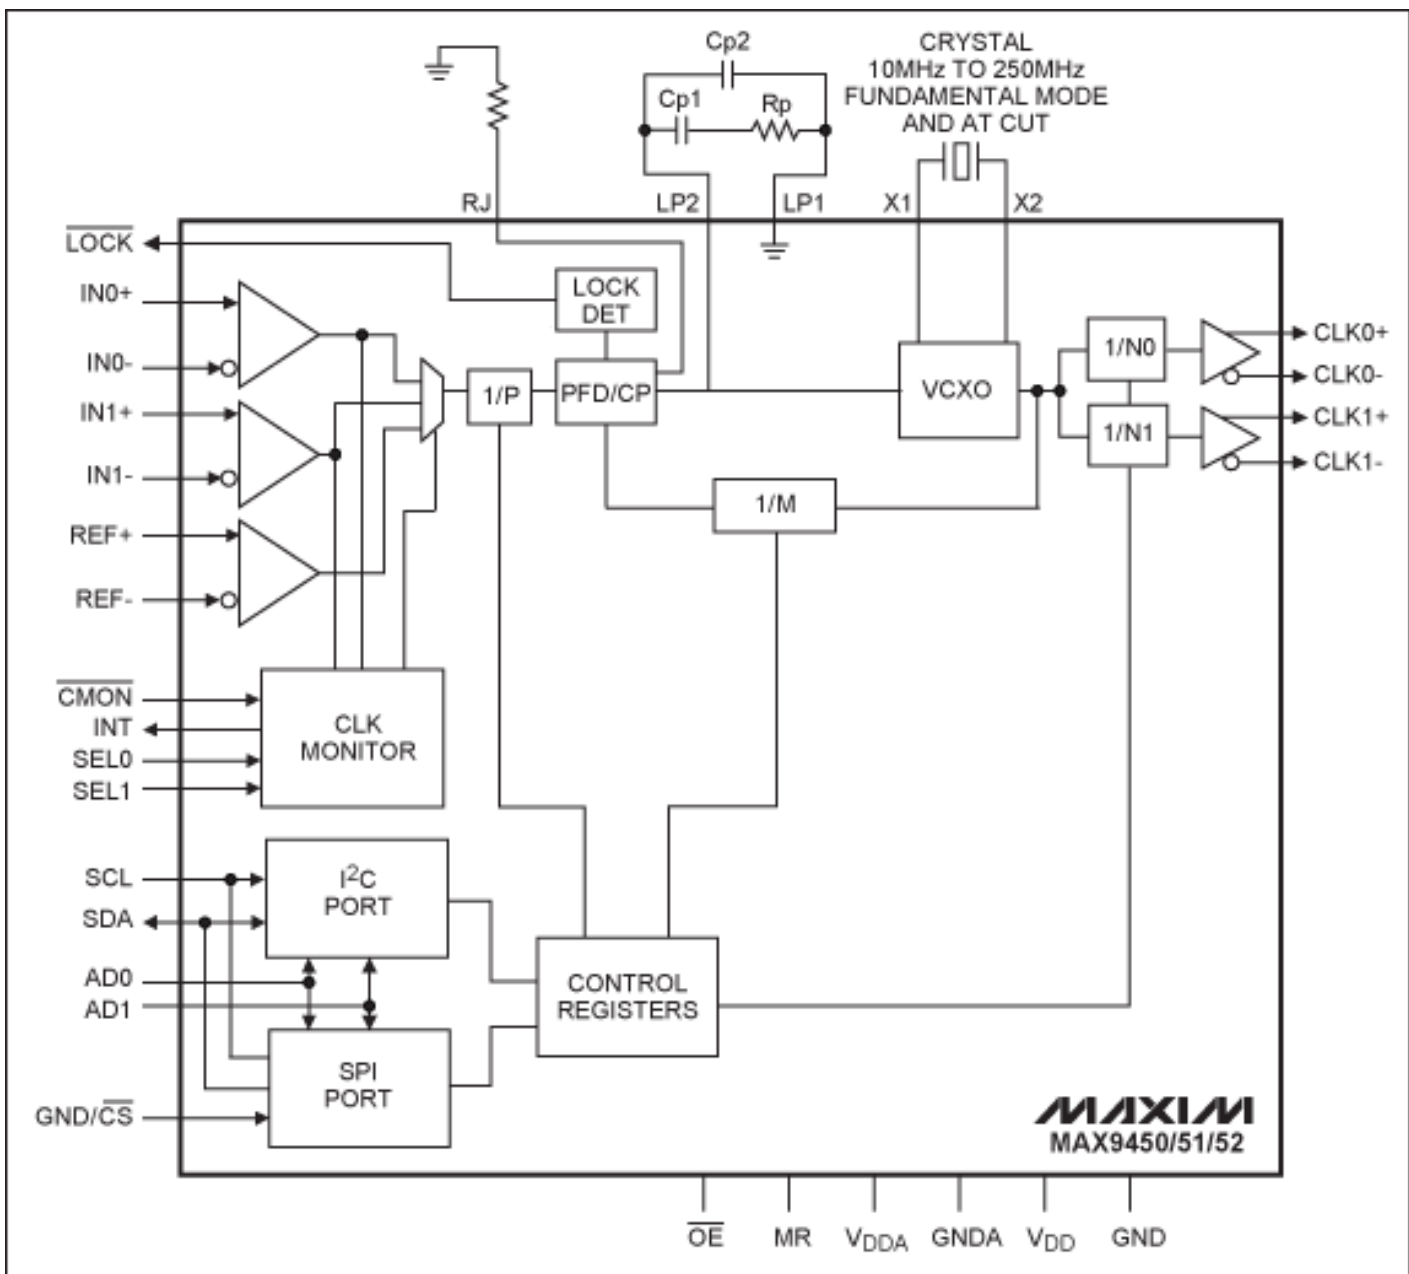

Figure 1. Block diagram of the MAX9450/MAX9451/MAX9452.
The MAX9450/MAX9451/MAX9452 clock generators¹ provide high-precision clocks for timing in SONET/SDH systems, Gigabit Ethernet systems, and the ADC/DAC of 3G base stations. The devices can also be used as a jitter attenuator, and they have the same core with three different outputs: LVPECL, HSTL and LVDS. The block diagram of the chip is shown in **Figure 1**.
As shown in Figure 1, the VCXO's active circuitry is integrated into the chip and only the crystal and loop-filter RC components are external. As noted above, the crystal frequency must be the same as the desired output frequency. But we also need to consider the crystal's oscillation mode, cut type, loading capacitance (CL), frequency tolerance range, shunt capacitance (CO), and motional capacitance (C1).